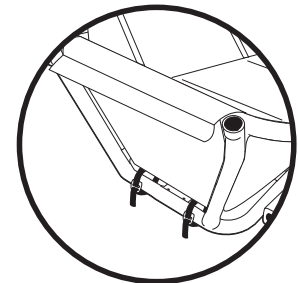

Figure 5
3. Wrap the webbing at the front of the Frame Assembly around the frame and tighten (Figure 5).